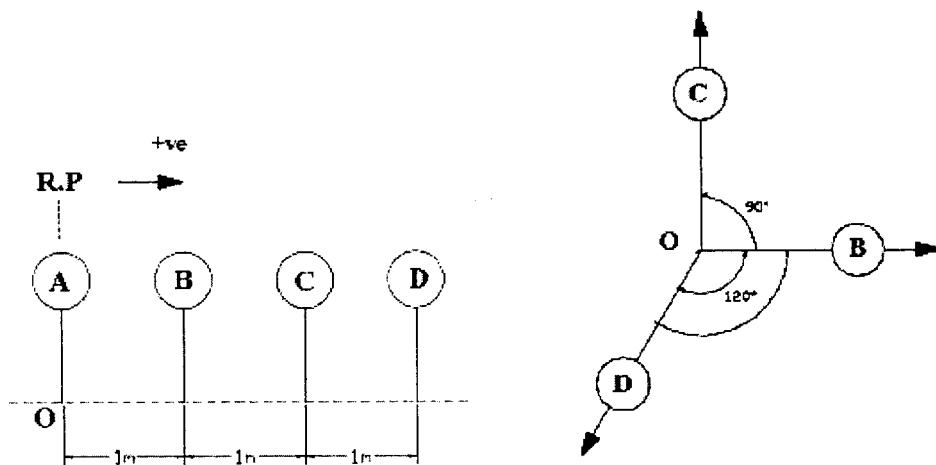

Figure 3(a) / Rajah 3(a)
- (a) A rotating shaft has four masses A, B, C and D with radius of 100 cm. The mass B is 7kg with an angle of $BOC = 90^\circ$ and $BOD = 120^\circ$ as shown in Figure 3(a). Calculate: